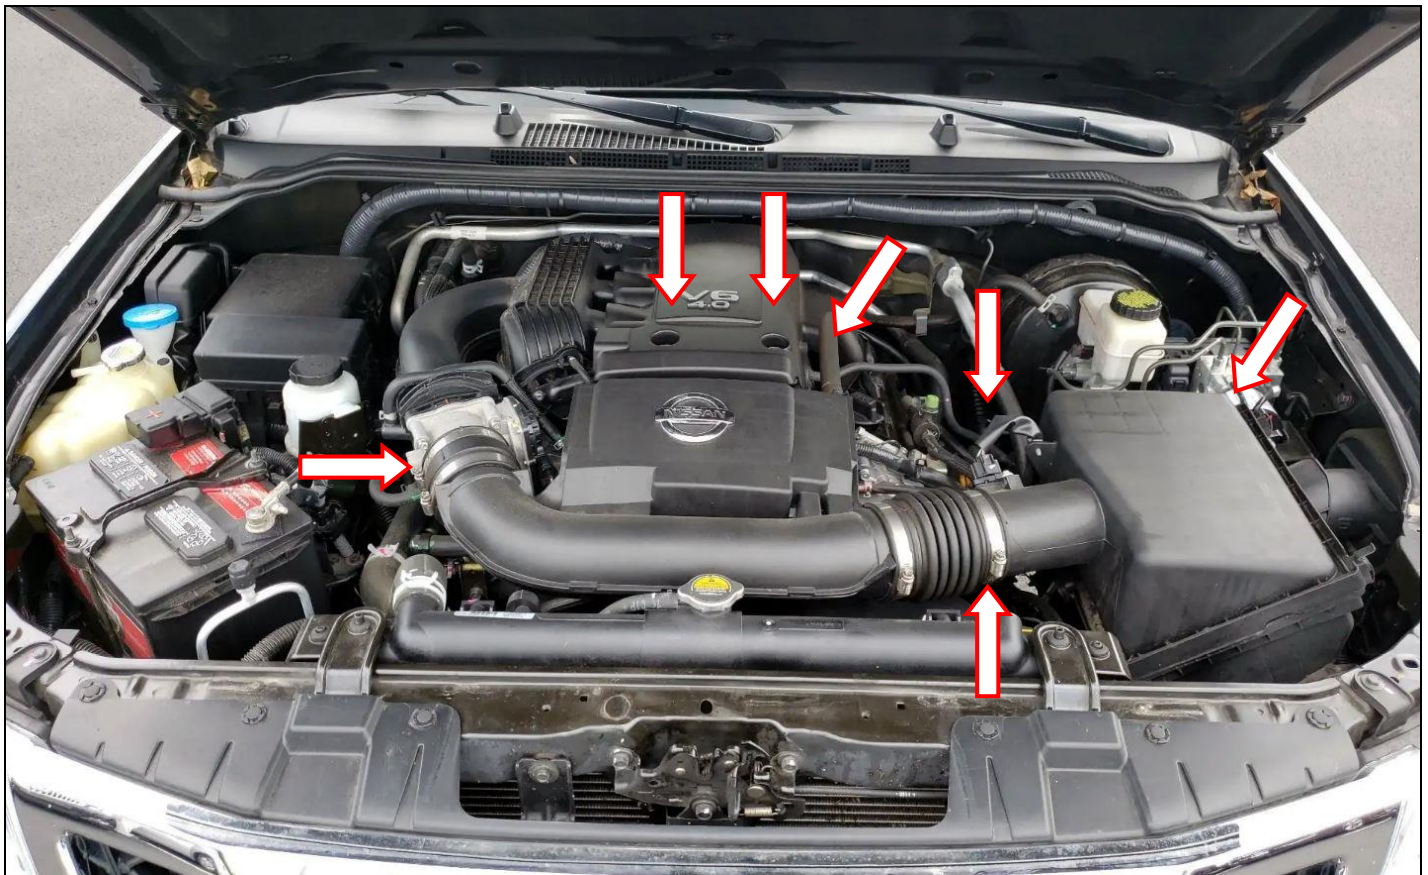

Figure 1
2. Remove the (x2) screws securing the engine cover, then firmly lift to remove (**Figure 1**).
3. Disconnect the crankcase vent (CCV) hose from the backside of the factory intake tube (**Figure 1**).
4. Remove the (x2) screws securing the factory intake tube to the engine (**Figure 1**).
5. Disconnect the Mass Air Flow (MAF) sensor wiring harness from the MAF sensor (**Figure 1**).
6. Unclip the MAF wiring harness from the airbox assembly (**Figure 1**).
8. Loosen the hose clamp securing the intake tube to the throttle body (**Figure 1**).
9. Remove the screw securing the factory housing in place & save for reuse (**Figure 1**).
10. Pull up firmly on the factory housing, and then remove the entire air intake assembly from the vehicle (**Figure 1**).